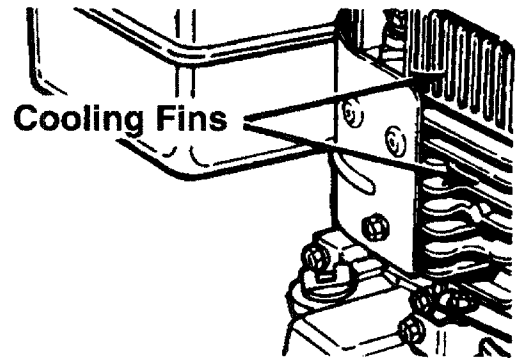

Figure 14
- Frequently remove grass clippings, dirt and debris from cooling fins, air intake screen and levers and linkage. This will help ensure adequate cooling and correct engine speed. See figure 14
- Yearly or every 25 hours, whichever occurs first, remove the blower housing and clean the areas shown in figure 14 to avoid overspeeding, overheating and engine damage. Clean more often if necessary.